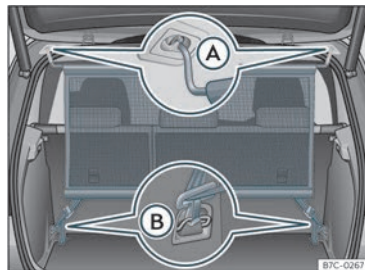

Fig. 122 Net partition fitted. »
- Secure the net partition in the left housing of the roof»» Fig. 122 (A). Make sure to move the cross rod down beyond the upper position.
- Hook in the net partition on the rear right-hand side roof housing by pressing on the rod»» Fig. 122 (A).
- Secure two hooks of the partition net to the fastening rings of the boot»» Fig. 122 (B) and tighten the straps firmly.